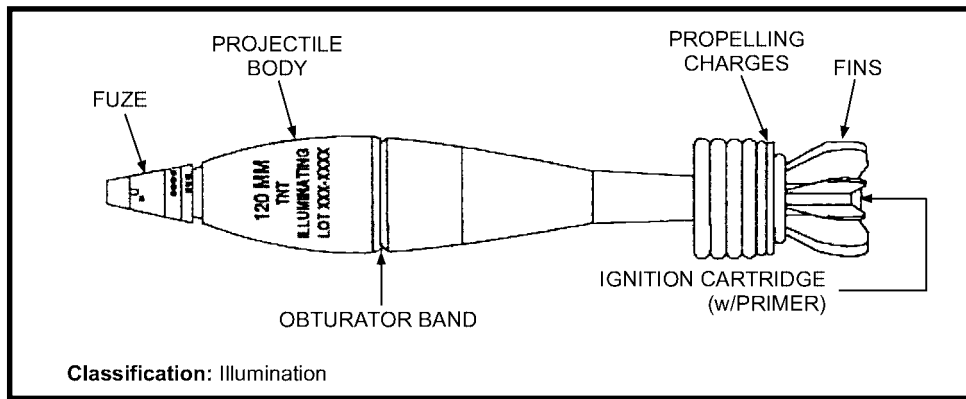

Figure 7-11. M91 illumination cartridge.
c. **M91 Illumination Cartridge (NDI)** (Figure 7-11).
- (1) Identification: White with black markings.
- (2) Components: M776 (DM93) mechanical time superquick (MTSQ) fuze.
- (3) Maximum range: 6,200 meters at charge 8; 7,100 meters at charge 10.
(4) Remarks: Contains candle and parachute used for illumination (weight to 29 pounds [13.18 kilograms]); burn time—46 to 60 seconds; candle power—1,000,000.